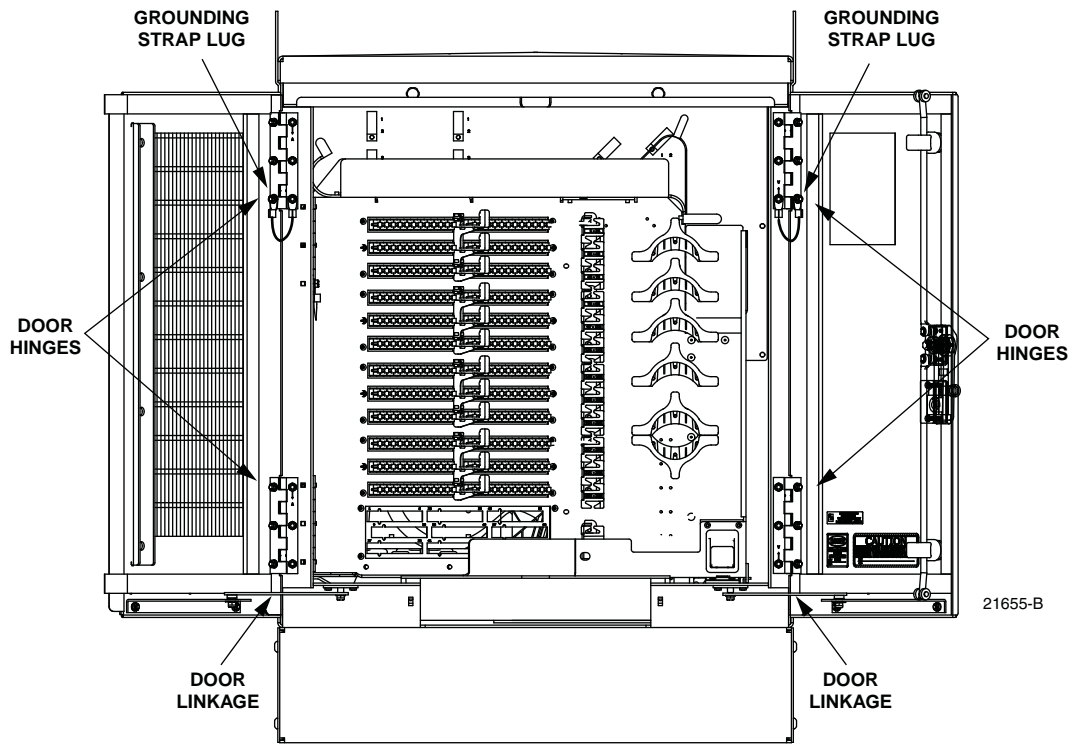

Figure 24. Door Replacement
1. Open both cabinet doors and lock them in the open position as shown in Figure 24.